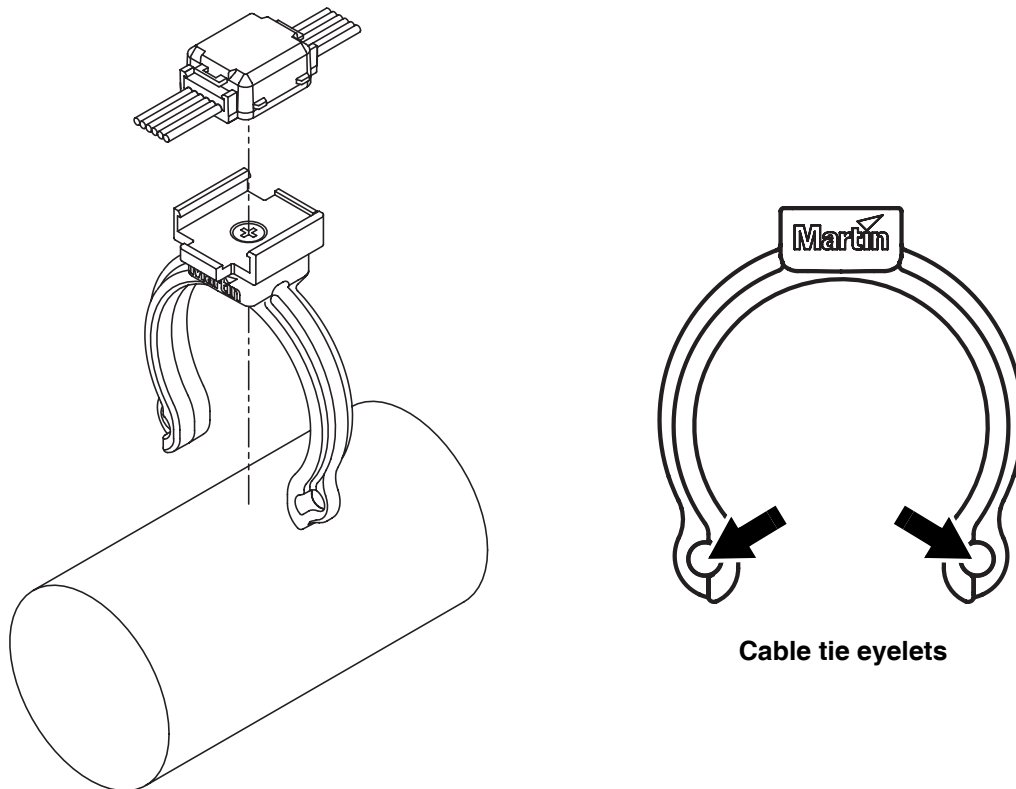

Figure 1. Installing a VC-Dot using a Truss Clip
2. See Figure 1. Press VC-Dots into Truss Clips until they snap into place and are held securely.